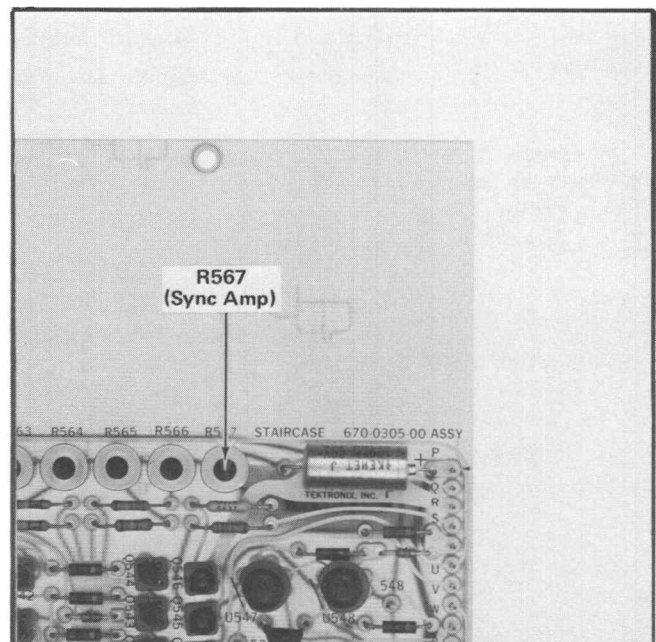

Fig. 5-9. Staircase board adjustment location.
g. ADJUST—Sync Amplifier control, R567, (see Fig. 5-9) until the sync tip just aligns with the blanking level.